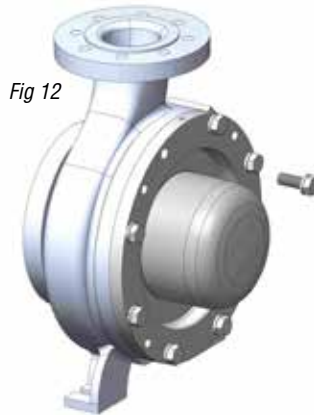

Fig 12
- Using a 24 mm socket, remove the (8) M16 hex head bolts that connect the clamp ring (item 7) to the casing. See figure 12.